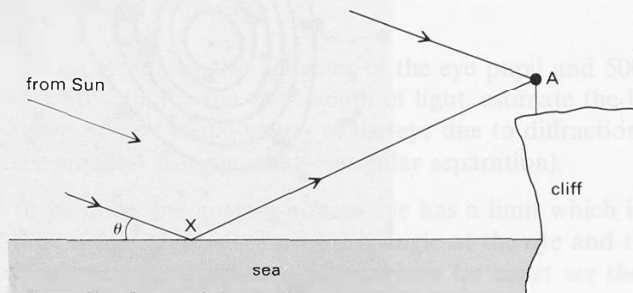

Figure J109
- a** Figure J109 shows the Sun's rays when the received intensity at A is a maximum. On a copy of the figure, mark a point Y on the direct ray from the Sun to A, such that $AX - AY$ is an odd number of half wavelengths. (The phase is reversed on reflection by the sea.)